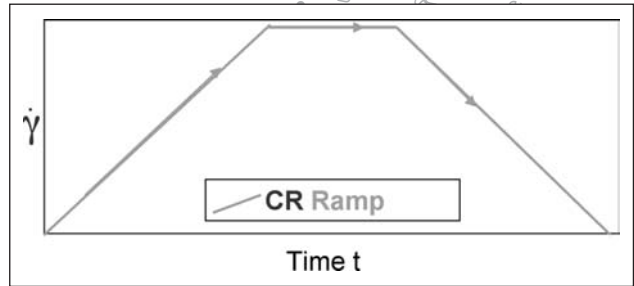

Figure 2: Input for ramp test
- A lower and an upper shear rate (CR) or shear stress (CS) is chosen, as is the number of measurement points between them.
- The material is subjected to a shear rate profile, like in Figure 2.